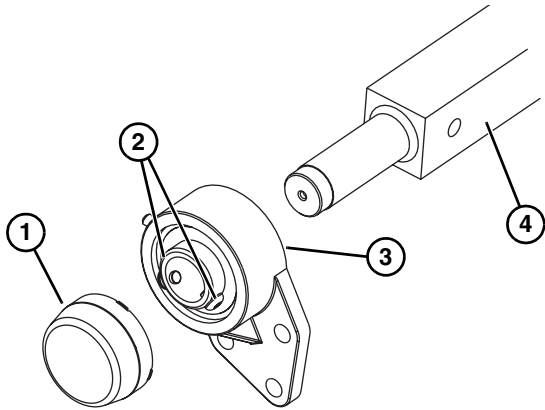

Figure 78
2. Remove the bearing cover (**Figure 78, item 1**).
3. Use a hex wrench to loosen the bearing shaft assembly fasteners (**Figure 78, item 2**).
4. Slide the bearing flange assembly (**Figure 78, item 3**), off the spindle shaft end (**Figure 78, item 4**).